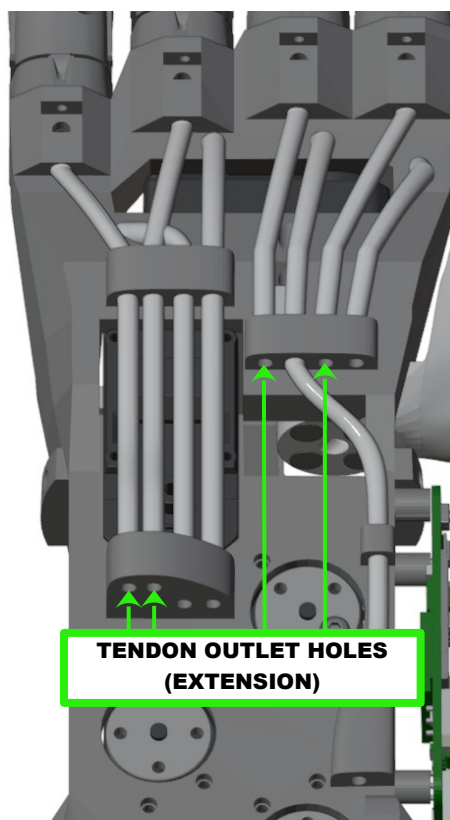

Figure 5.45: Tendon outlet holes (extension)
4. Push the nylon threads until they come out of the outlet hole (figure 5.45).